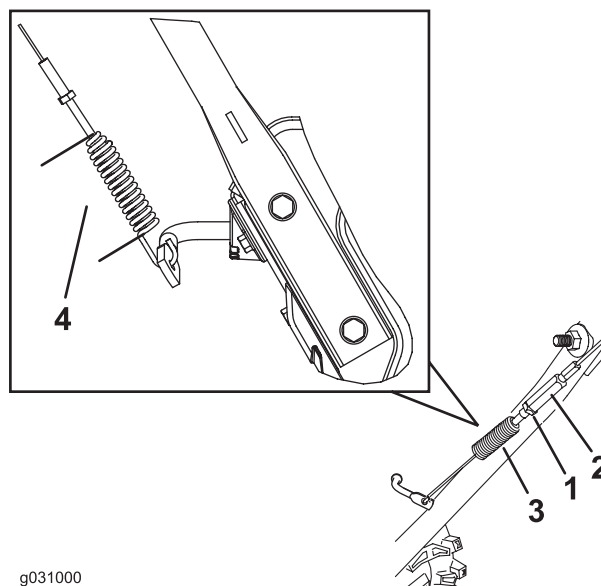

Figure 37
3. Loosen or tighten the turnbuckle to adjust the spring length to 7 cm (2.75 inches) as shown in Figure 37.
4. Tighten the jam nut (Figure 37), ensuring there is slight tension on the cable.